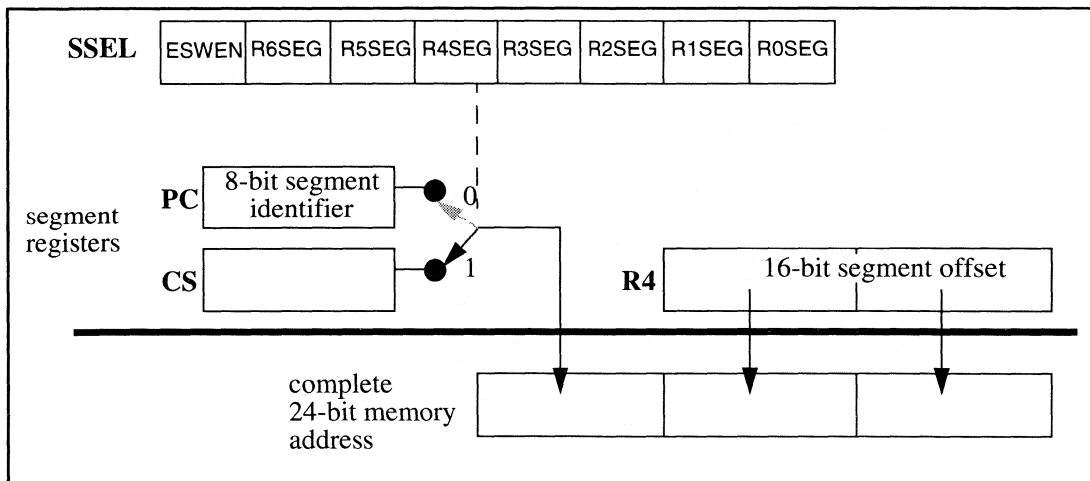

Figure 3.12 MOVC addressing in code memory
A special instruction, MOVC, is defined in the XA for accessing constant data (e.g lookup tables, string constants etc.) stored in code memory. There is a standard form of MOVC that reflects the native XA architecture, and there are two variations that reflect 80C51 compatibility; see Chapter 9 for details of 80C51 compatibility. The standard form of MOVC uses a 16-bit register value as a pointer, appended to either the top 8 bits of the Program Counter (PC) or the Code Segment register (CS) to form a 24-bit address, as shown in Figure 3.12. The source for the upper 8 address bits is determined by the setting of the segment selection bit (0 = PC and 1 = CS) in the SSEL register that corresponds to the operand register.